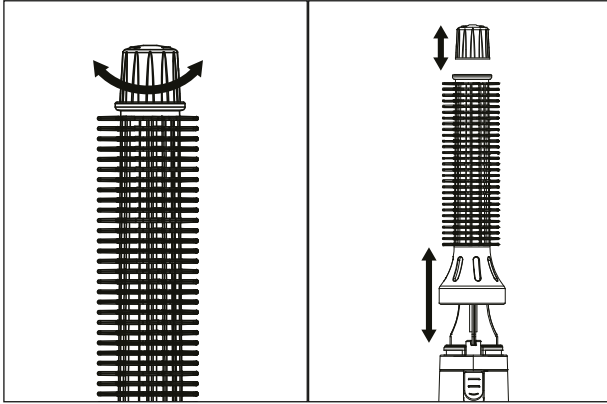

Fig. 1
- 1) Remove the brush attachment **2** from the appliance to clean it (fig. 1). To do this, first remove the cap **1** by turning it anticlockwise. Then pull the brush attachment **2** off the appliance.
- 3) Slide the brush attachment **2** and then the cap **1** back onto the appliance (fig. 1). Screw the cap **1** on in a clockwise direction.